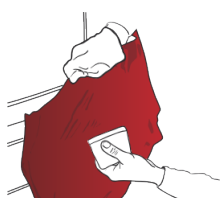

Fig. 15
- › If necessary, lift the film, re-stretch it and completely wrap the convex surface (FIG. 15).